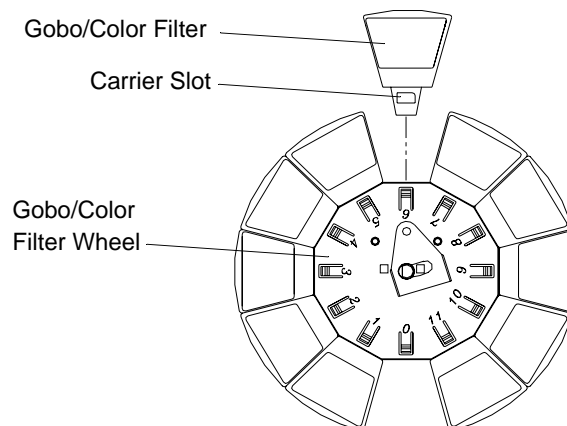

Figure 2-4: Standard Gobo/Color Filter Replacement
Note: In some cases it is easier to slide bulkhead partially out of head assembly to access gobos/filters. To do this, use #2 Phillips screwdriver to two 6-32 PPZ screws and slide bulkhead upward. Figure 2-4.
Step 5. Using fingers, pull gobo/filter out of wheel. Figure 2-4.